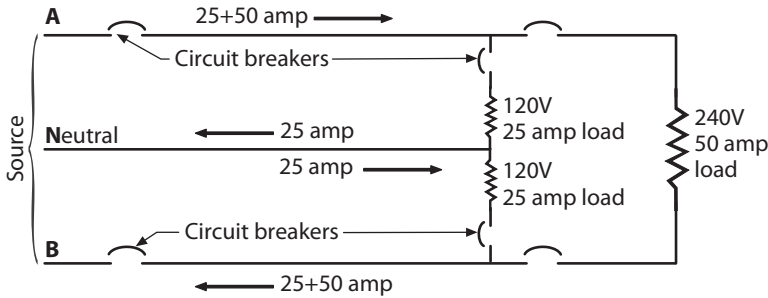

Fig. 28-11 A feeder serving both 120-volt loads and 240-volt loads.
serving the entire installation, or a feeder serving part of the load. Fig. 28-11 shows a feeder serving both 120- and 240-volt loads. Assume now that the 120-volt loads are disconnected; in your mind erase them from the circuit. The neutral does not run to the 240-volt load; it is not necessary to the operation of the 240-volt load. Therefore the 240-volt load does not need to be considered as far as the size of the neutral is concerned. The neutral needs to be large enough only to carry the “maximum unbalance,” which in *NEC* 220.61(A) is defined thus: “The maximum unbalance shall be the maximum net computed load between the neutral and any one ungrounded conductor.”
Reverting now to Fig. 28-11, if the 120-volt loads are 25 amps each, and the 240-volt load is 50 amps, each hot wire must carry 25 + 50, or 75 amps. If the two 120-volt loads are identical (for example, 25 amps as in the illustration), the neutral carries no current at all, but if one of the 120-volt loads is turned off, the neutral must carry the current for the other 120-volt load, in this case 25 amps, and must be sized accordingly.